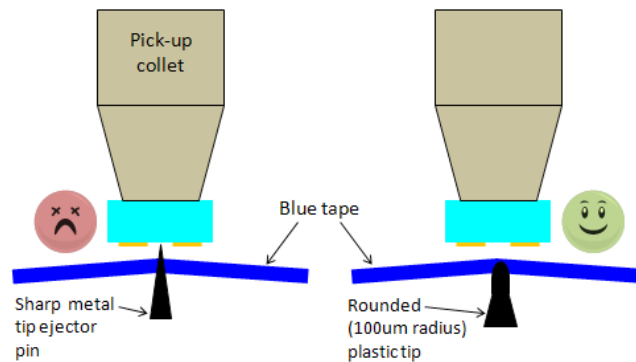

Figure 8. Sharp ejector pin tip may damage the LUXEON FlipChip (left). A rounded plastic tip minimizes the risk of damage caused by ejector pin (right).
2. Die attach ejector pin selection. Unlike the top of LUXEON FlipChip, the bottom (underneath the sapphire) is the epitaxial material where the p-n junction is located. It is not mechanically protected and can be damaged if a sharp and hard ejector pin material is used (Figure 8). Lumileds recommends an ejector pin with a plastic tip radius of 100mm to minimize the risk of mechanical damage. When setup properly, the ejector pin should not puncture through the tape. An example of a plastic tip ejector pin is made by Micro-Mechanics (www.micro-mechanics.com), part number SEN5-T07-170-010-20.